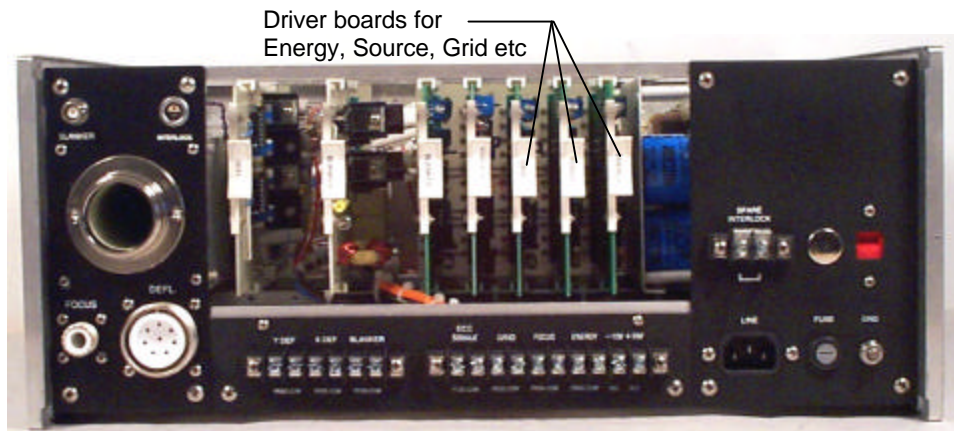

Fig. 6.4-1 A typical Power Supply with rear access panel removed, showing sine wave driver boards in slots
2. Remove the rear center access panel from the Power Supply (see Fig. 6.4.1).